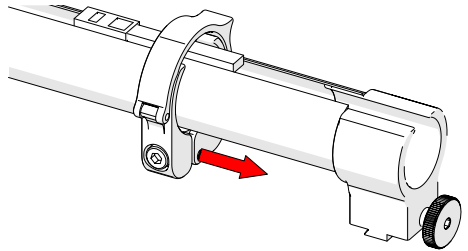

Fig. 155 - Slide clamp onto mount
3. Slide the clamp over the tube and cable management dovetail mount pinching the tube in between (Fig. 155).